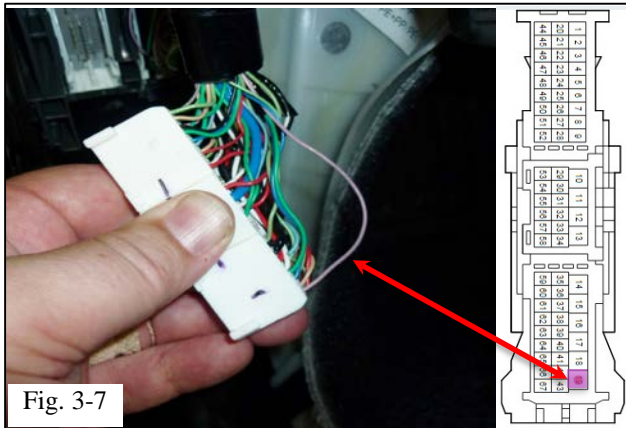

Fig. 3-7
- (j) Locate the violet wire (CTY[-], pin 19) (Fig. 3-7).